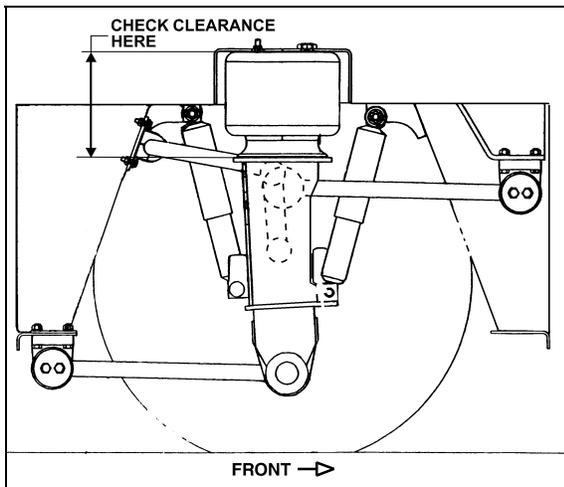

FIGURE 51: TYPICAL AIR SPRING CLEARANCE, FRONT I-BEAM AXLE
1. With the vehicle at normal operating air pressure, check the air spring clearance as illustrated in figure 51. This clearance should be  $12 \pm \frac{1}{4}$ " (305  $\pm$  6 mm) for the front I-beam axle air springs,  $12 \frac{15}{16} \pm \frac{1}{4}$  in (328  $\pm$  6 mm) for the Independent Front Suspension air springs and  $11 \frac{1}{2} \pm \frac{1}{4}$ " (292  $\pm$  6 mm) for those on the drive axle.